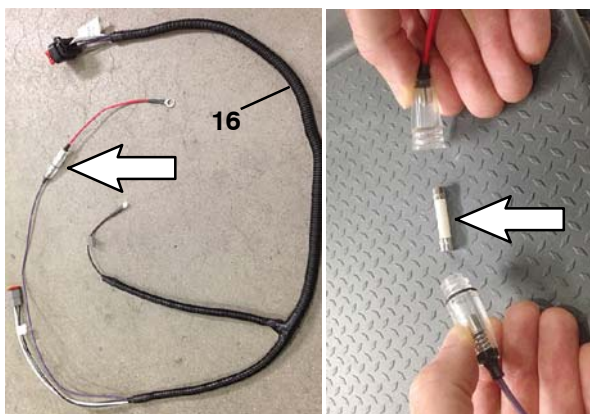

Fig. 3
7. IMPORTANT: To prevent possible damage to telemetry system during install, remove the inline fuse from the telemetry harness (16) (Fig. 3). Do not misplace fuse.